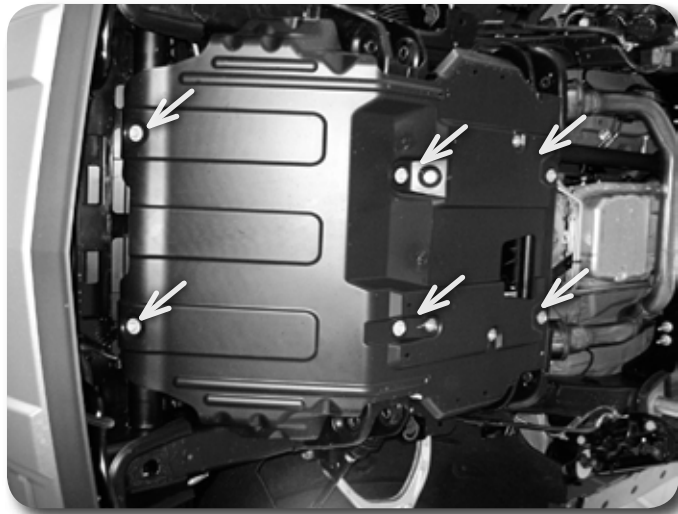

Figure 2
6. Remove the splash guard from the vehicle. **Figure 2**.